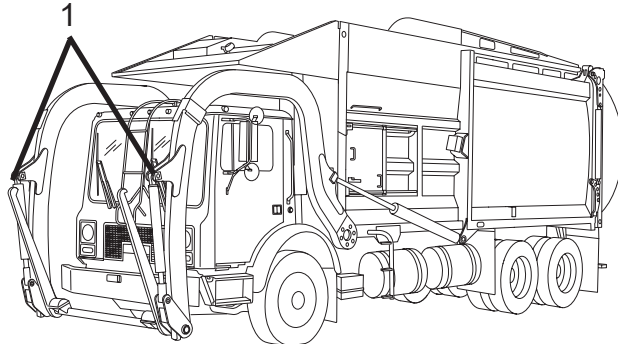

Figure 1
3. Ensure that the arms are in the fully extended position (Figure 1) and locate the arm fork lugs (Figure 1, Item 1).